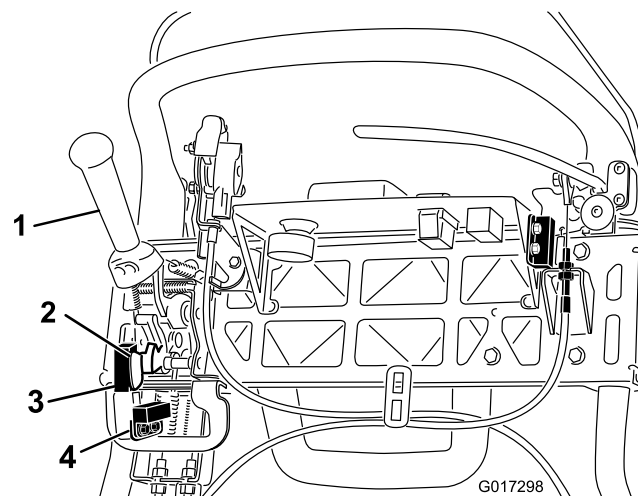

Figure 38
4. Loosen the interlock switch mounting fasteners (Figure 38).
5. Place a 0.062 inch (1.6 mm) thick shim between the traction lever and the interlock switch (Figure 38).
4. Loosen the mow sensor mounting fasteners (Figure 38).
5. Place a 0.062 inch (1.6 mm) thick shim between the mow sensor flag and the mow sensor (Figure 38).